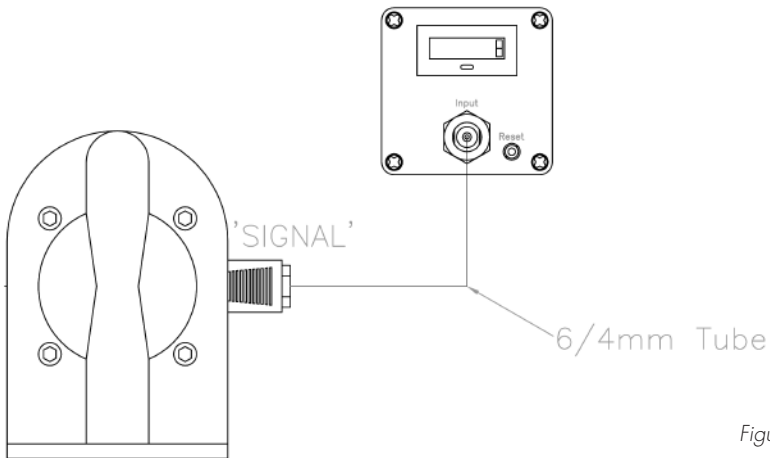

Figure 1.
For pumps with air inlets of 1/4" BSP or smaller the pump can be connected directly to the 'PUMP' port as shown in fig 1.
1. Connect the signal input to the pump exhaust as shown in the 'typical application' drawing figure 1.